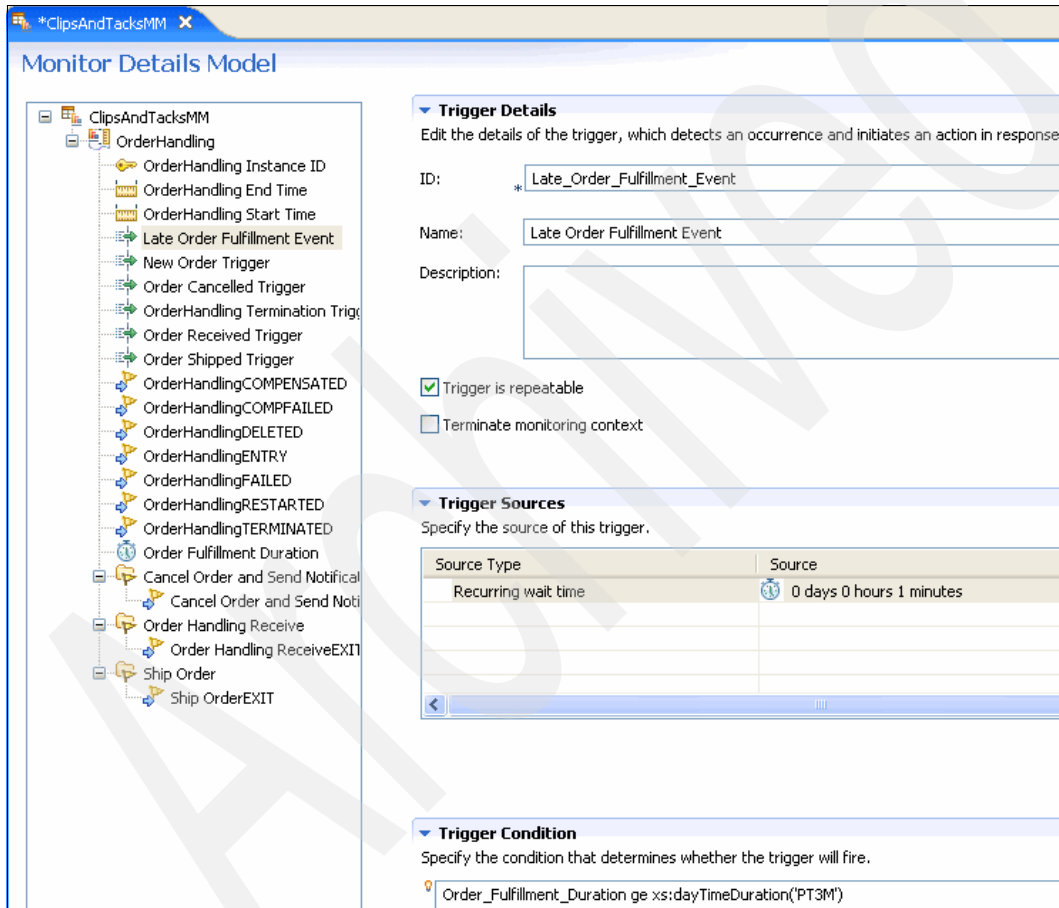

Figure 5-39 Late Order Fulfillment Event Trigger overview
3. Under Trigger Sources (Figure 5-39):